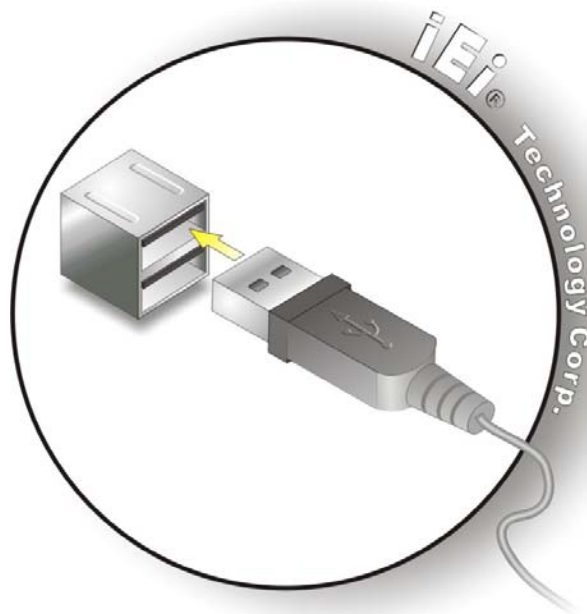

Figure 3-39: USB Device Connection
Step 2: **Align the connectors**. Align the USB device connector with one of the connectors on the bottom panel. See **Figure 3-39**.